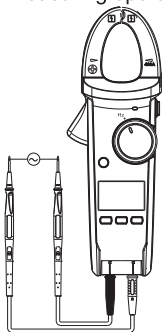

Figure 10
9. Measuring of Frequency (See Figure 10)